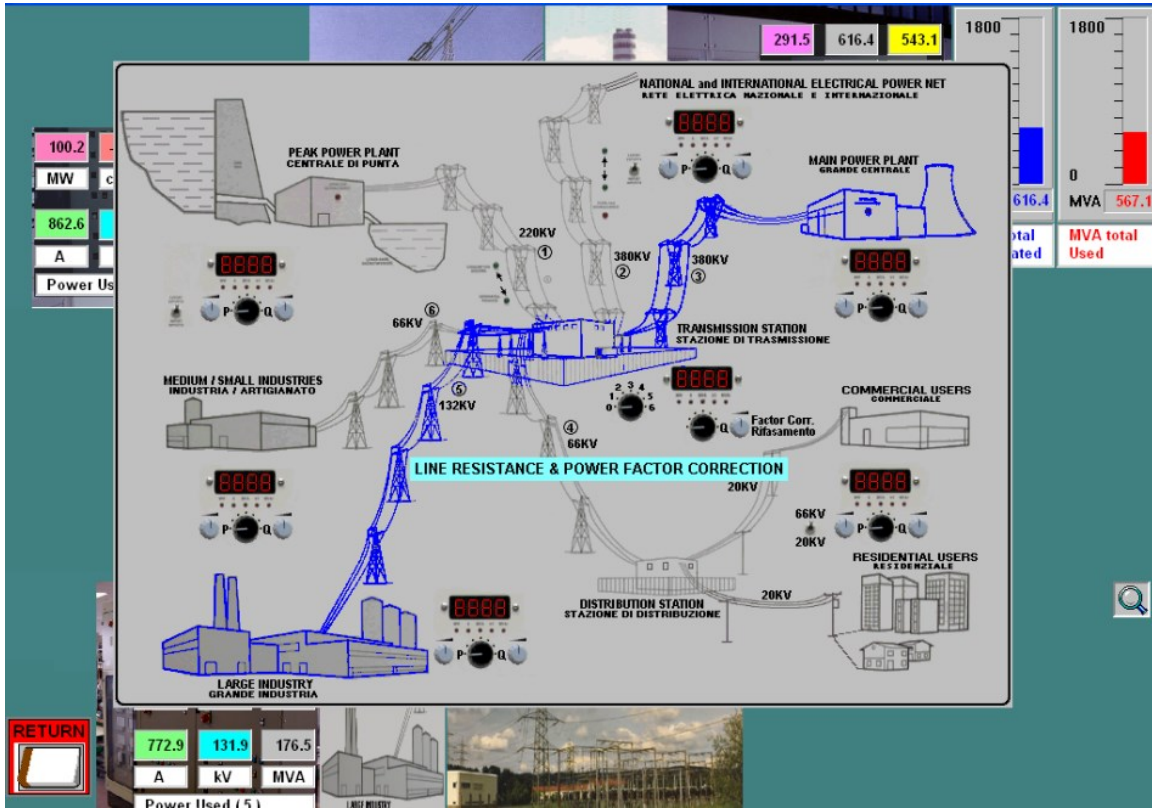

Figure 9.4 Electrical power cycle simulator
1. Pressing the GREEN buttons on the line resistance and power factor correction, will display the following figure 9.4, there is two transmission line 3, and line 5.